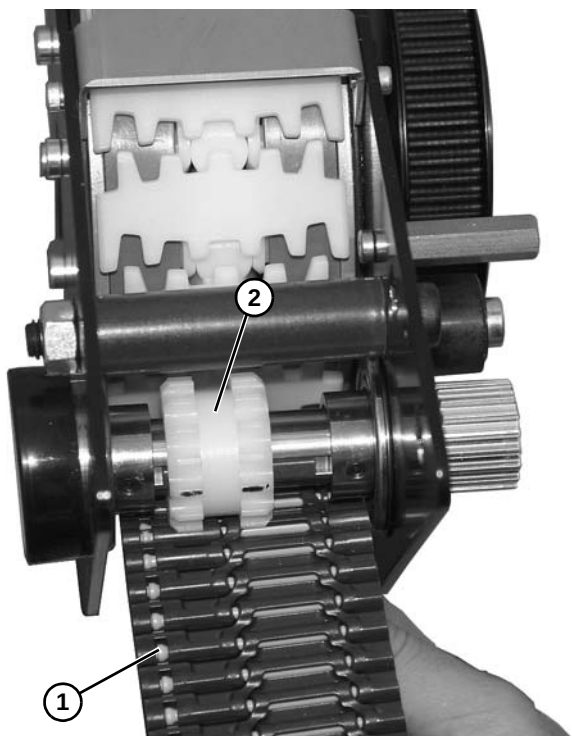

Figure 117
3. Raise belt (**Figure 117, item 1**) into position, and move gear (**Figure 117, item 2**) so that cogs line up with belt, as shown.